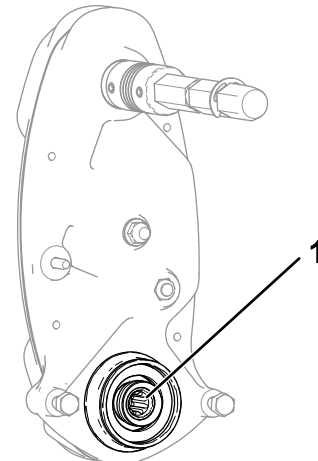

Figure 7
3. Check the inside of the reel driveshaft (Figure 7) for any remaining grease.